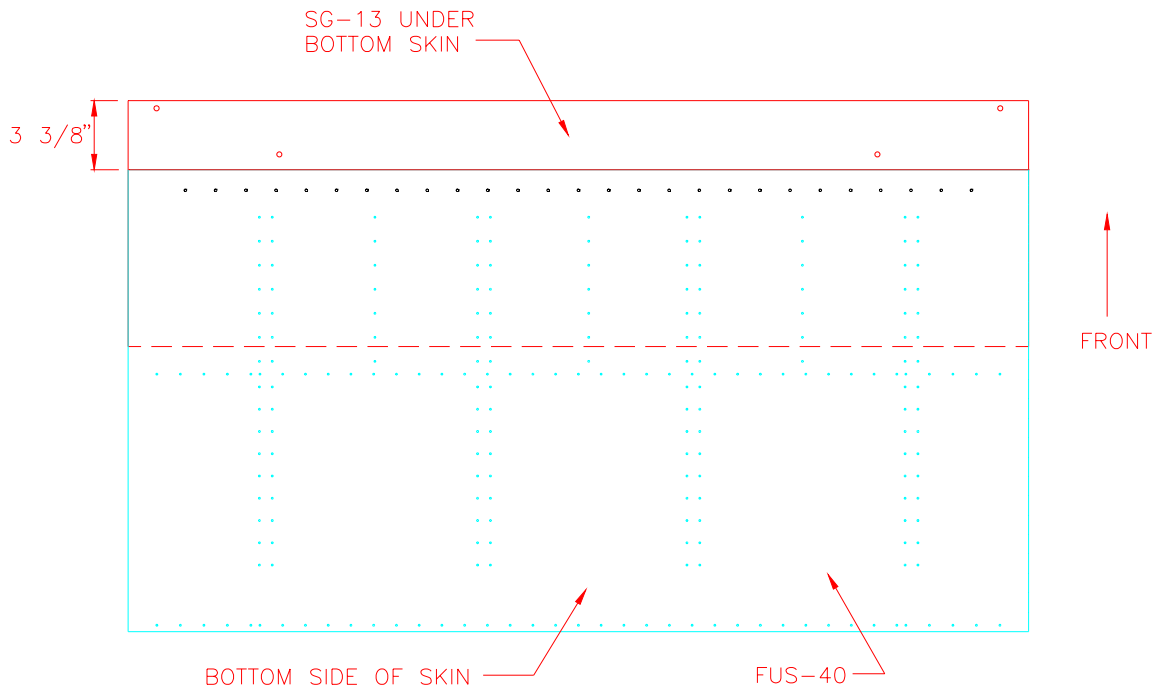

Figure 14.1.3
- 7) On a flat table lay the SG-13 under the bottom skin (FUS-40) so that the  $3 \frac{3}{8}$ " line you just marked is located at the top edge of the skin. Figure 14.1.3.